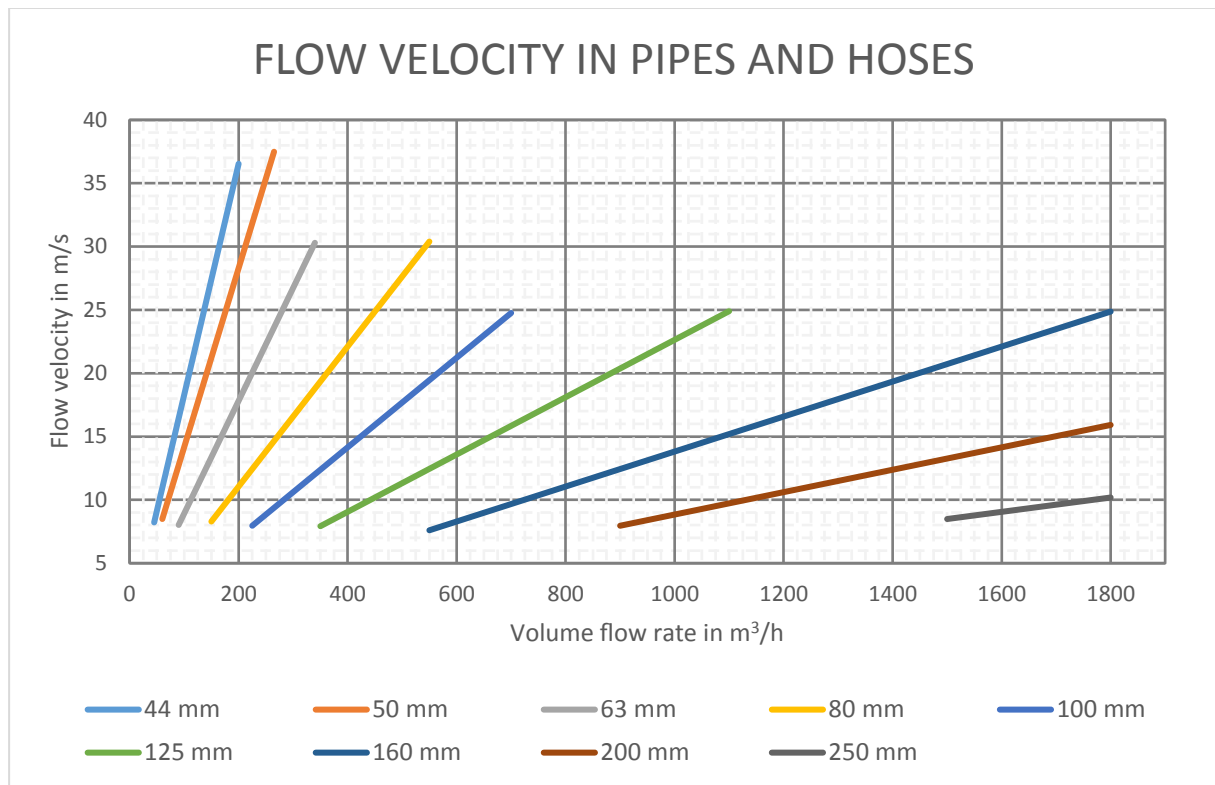

Figure 18: Flow Velocities in Piping and Hoses
- A reference value of 15m/s is recommended for the flow velocity. Please observe Abbildung 18.